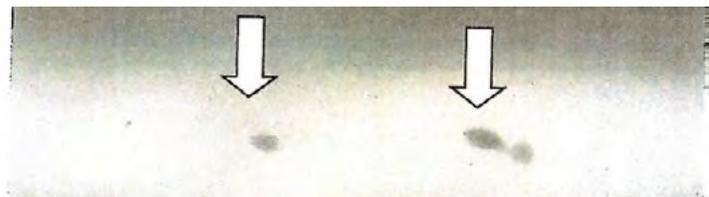

Fig.2
6. **RESULTS** – Of the three tests are represented in diagrams of fig.2